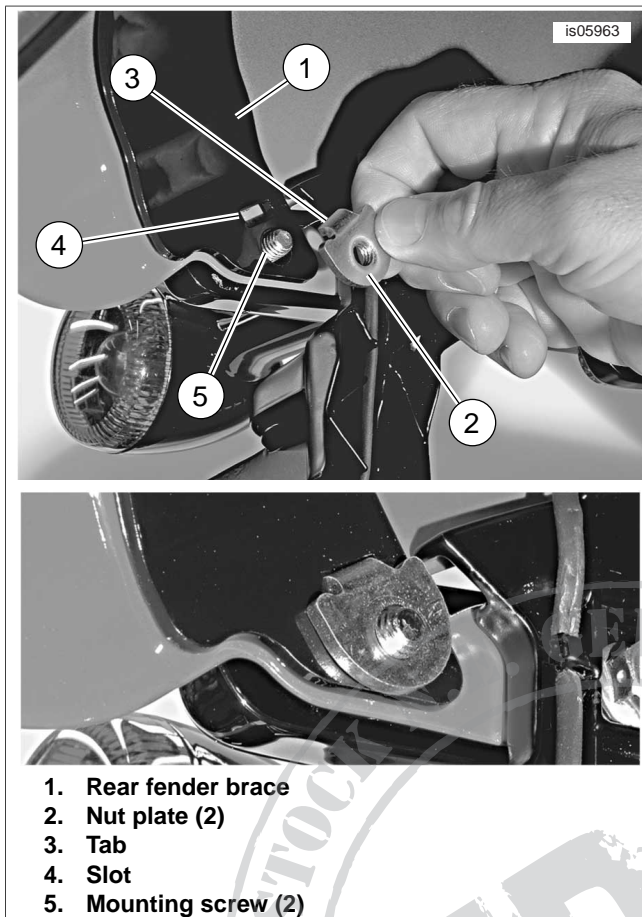

Figure 3. Rear Fender Nut Plate
- d. See Figure 3. Make certain that the tab (3) on each nut plate (2) fits into the slot (4) in the fender brace (1) when securing the nut plate with the rearmost fender mounting screw (5).